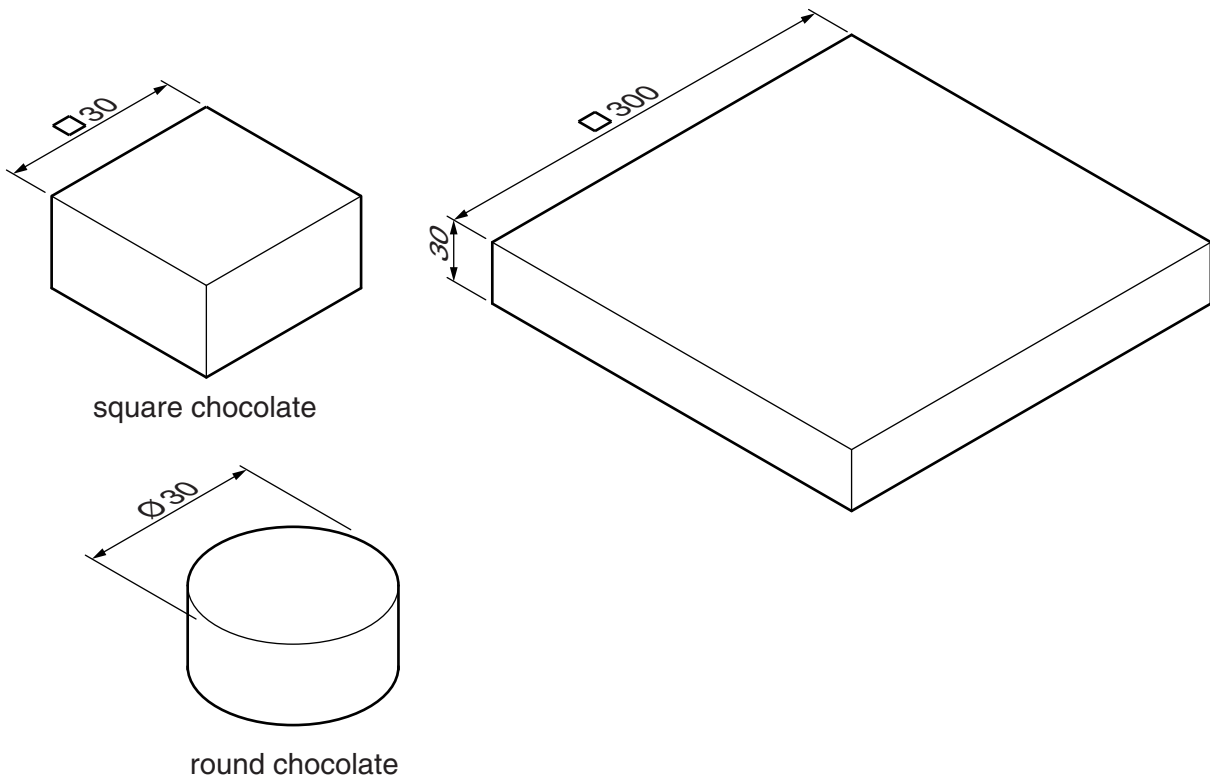

Fig. 10
- 8 Fig. 10 shows two types of chocolate and an incomplete idea for a card box in which they will be packaged.